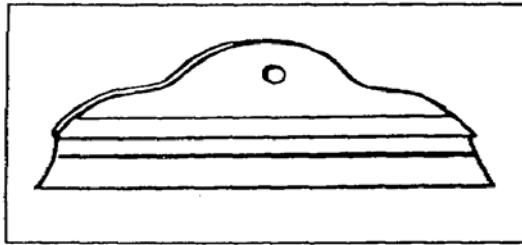

Figure 3-21. Paint guide
- e. Paint Guide. Use a paint guide (Figure 3-21) to help with painting in tight corners and to keep paint off ceilings and trim. Be careful not to get paint on the back of the paint guide.